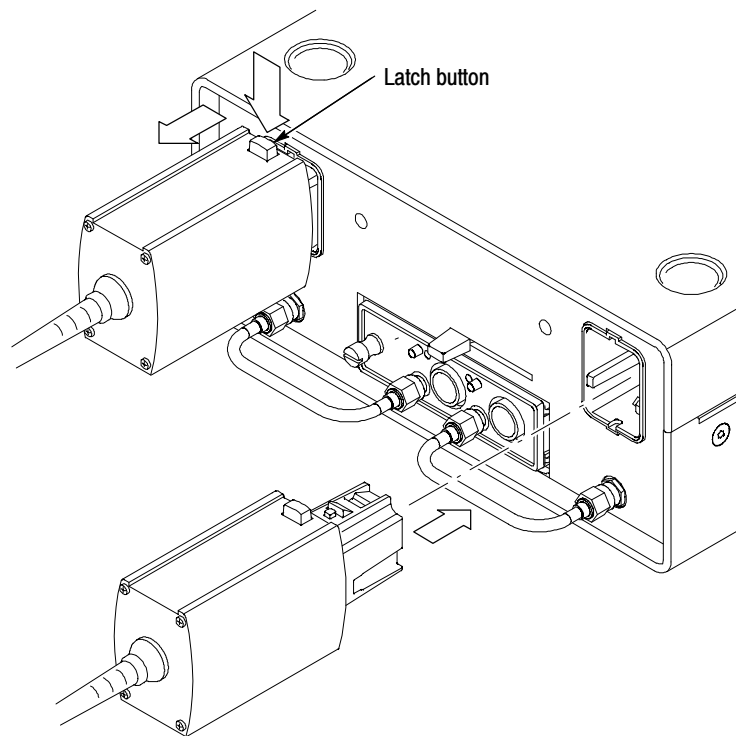

Figure 6: Installing TekConnect probes
1. Slide the probe into the TekConnect receptacle on the TekConnect Probe Interface Module. The probe snaps into the TekConnect Probe Interface Module when fully engaged. See Figure 6.